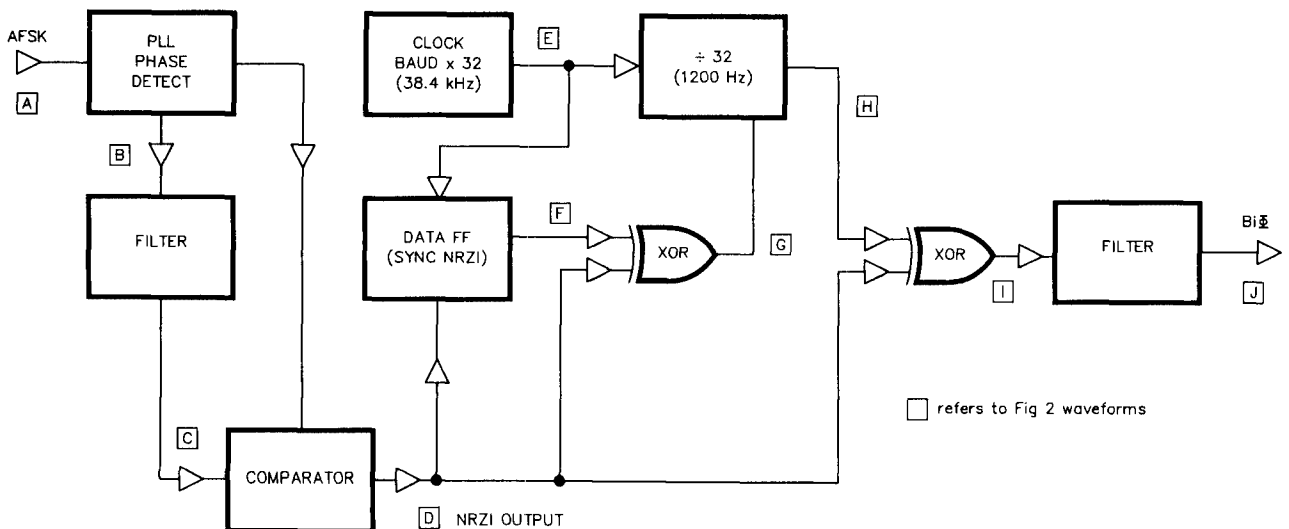
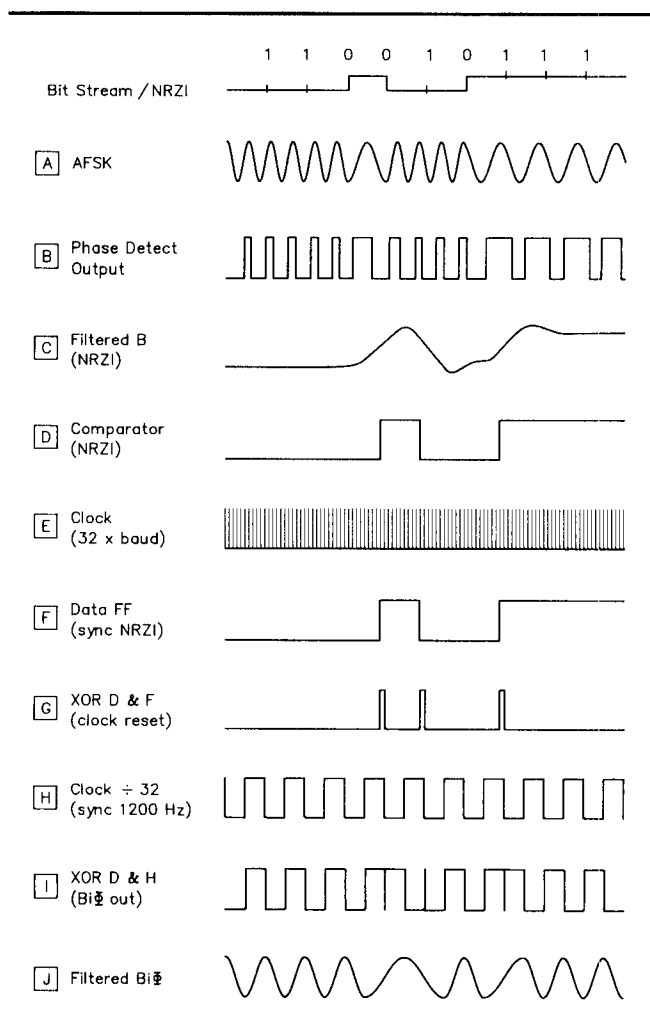

Fig 1—Block diagram—AFSK conversion to Bi Φ .
Fig 2—Waveform diagrams.
Referring to the block diagram, Fig 1, and the waveform diagrams, Fig 2, the following describes each waveform diagram. The bit-level sequence indicated at the top of the diagram was chosen to illustrate two typical conditions; two successive-level changes (00), and a single-level change (0).